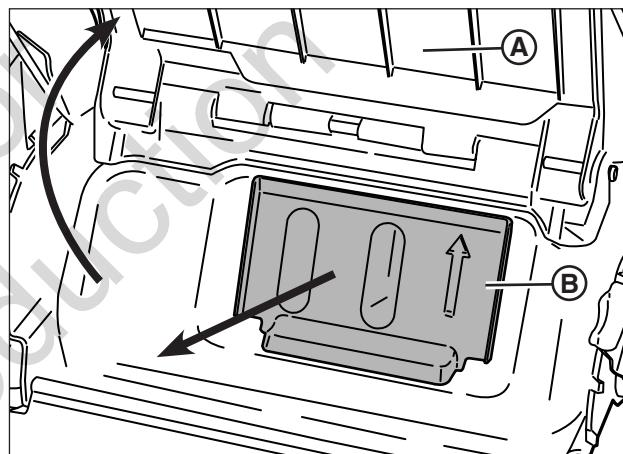

Figure 12: Removing the mulching plug
1. Raise the rear discharge door (**A**, Figure 12).